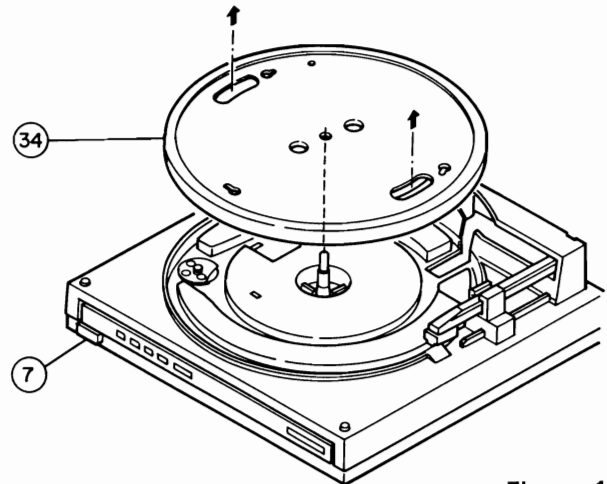

Figure 1
1. Switch off POWER button (7), disconnect the power cord from the outlet, and remove turntable (34) as shown in Figure 1.